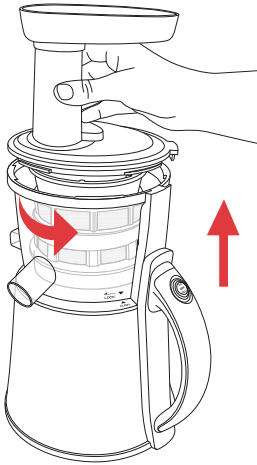

Figure 1
3. Remove the juicing cover by turning anti-clockwise to unlock the lid – figure 1.